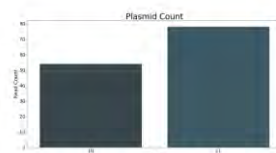

Figure 27. Quality control of the integrated tracking system.
- STIDs: Verification that the tracking reagent obtained matches the expected one (if it has been used), as shown in Figure 27.